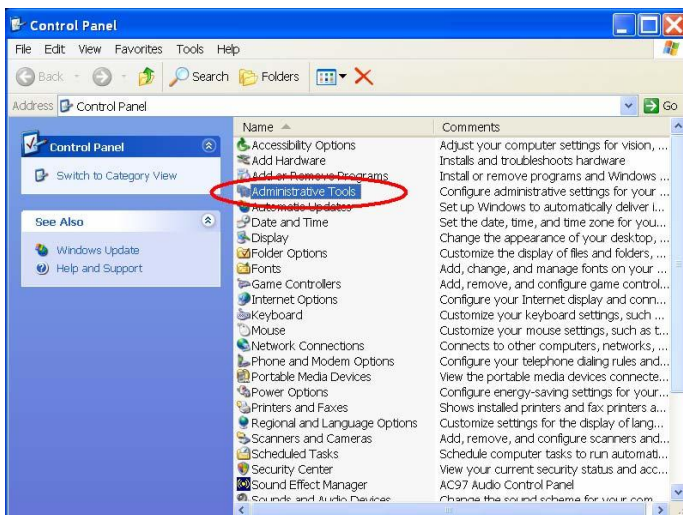

Figure A-15
**Step 2:** When **Control Panel** appears, double-click the **Administrative Tools** icon. The **Administrative Tools** dialog box appears. See Figure A-15.